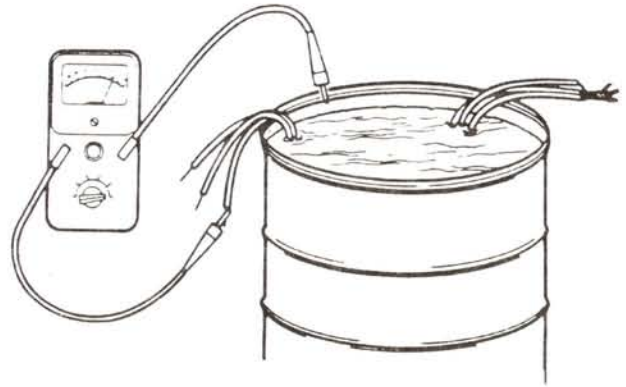

Figure 7
1. It is recommended that this test be done when the splicing is complete and pump is being test run in a tank of water. This test can be repeated after installation in well but before the final electrical hook-up is made to the control box or pressure switch (see Figures 7 & 8).